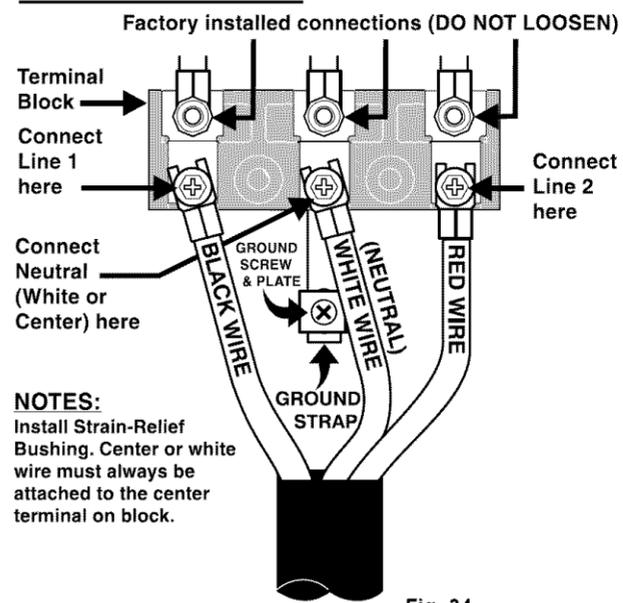

Fig. 34
## OR B 3-Wire Connection Instructions (for existing installations ONLY-See Fig. 34)
2. Insert the end connectors for Line 1, Line 2 and Neutral and tighten securely to the terminal block (See Fig. 34). **IMPORTANT NOTE:** DO NOT LOOSEN the factory installed nut connections which secure the range wiring to the terminal block. Electrical failure or loss of electrical connection may occur if these 3 nuts are loosened or removed.
A ground strap is installed on this range which connects the center terminal of the terminal block (neutral) to the range chassis. The ground strap is connected to the range by the center, lowest screw (See Fig. 34). The ground strap must not be removed unless national or local codes do not permit use of ground strap.